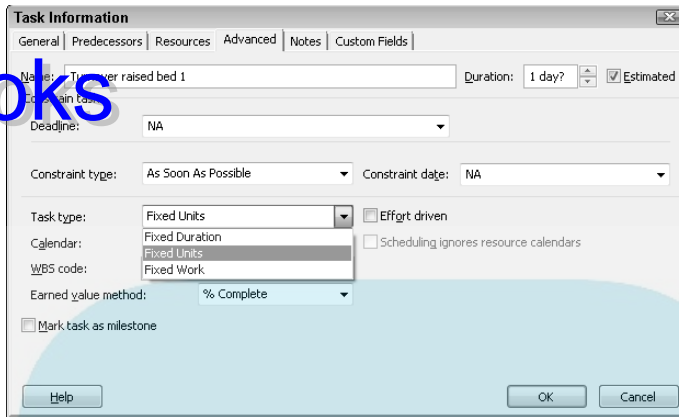

Figure 4-9:
- 2. Click the Advanced tab, if necessary, to display it (see Figure 4-9).**
New tasks are created with an estimated duration of one day unless you enter a duration. To create a milestone, you indicate that the task has zero duration. The quickest way to do that is to simply type **0** in the Duration column in Gantt Chart view. Or, you can click the Advanced tab of the Task Information dialog box (refer to Figure 4-9) and select the Mark Task as Milestone check box. When you do, the milestone is designated in Gantt Chart view with a black diamond shape rather than a task bar. Use this latter method for any milestone that does have a duration but that you want to mark as a milestone anyway; its milestone marker will be charted at the end of the duration period on the Gantt chart.
Effort Driven is a simple check box choice on the Advanced tab in the Task Information dialog box (refer to Figure 4-9). Select this check box to enable or disable the Effort Driven setting; it's not selected by default. When you clear this setting, the same task that you set to run two days takes two days, no matter how much effort your resources put in. In other words, adding resources doesn't cause the task to be completed sooner.